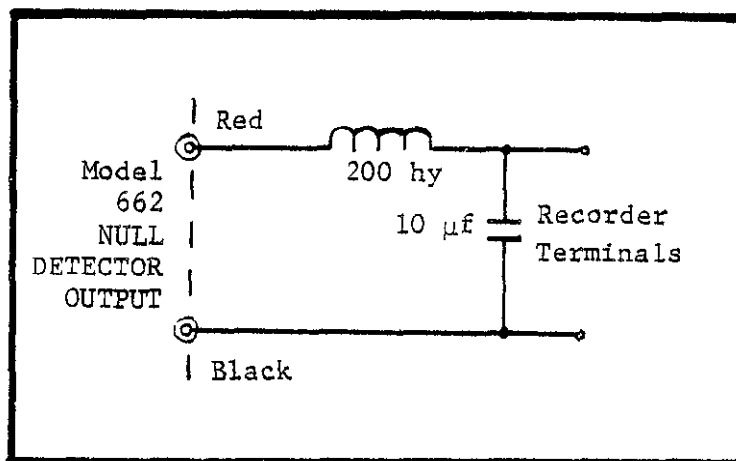

FIGURE 5. Recorder Filter. A filter between the Model 662 and the recorder may be necessary when using the 0.1-millivolt null detector range.
e. If there is substantial recorder jitter on the 0.1-millivolt null range, place a filter between the Model 662 and the recorder. Refer to Figure 5 for this connection. Note the filter must also be insulated from ground.